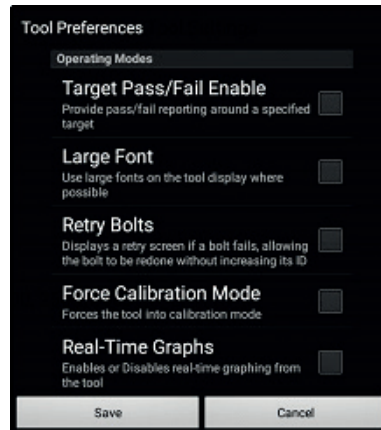

Figure 4-3: Tool Mode Preferences
**Tool Mode Preferences** (Figure 4-3)
**Tool Mode Preferences** (Figure 4-3) include Target (Pass/Fail) mode, Large Fonts for an easier to read display, Retry Bolt display, Calibration mode, and Real-Time Graphing. These settings can be enabled or disabled by toggling the tick-boxes beside the description. Press Save to apply the selected preferences to the tool or Cancel to leave the tool settings unchanged.